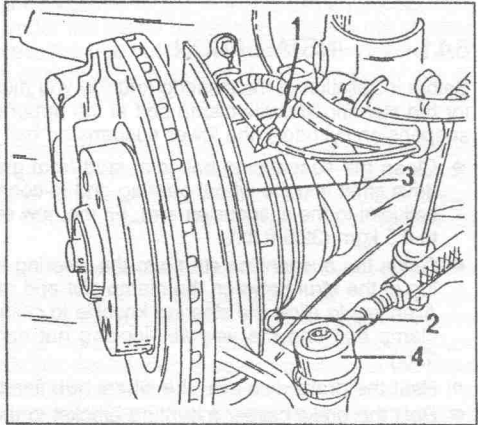

Fig. 6.13. — View of the fitted steering knuckle (with ABS).
- Referring to Fig. 6.13 remove the bolts (1) securing the brake hose bracket. If the vehicle is fitted with ABS you will find a screw (2) which secures the wheel speed sensor. Remove the screw and take out the sensor. Protect the sensor against contamination or damage. Also remove the protector (3).